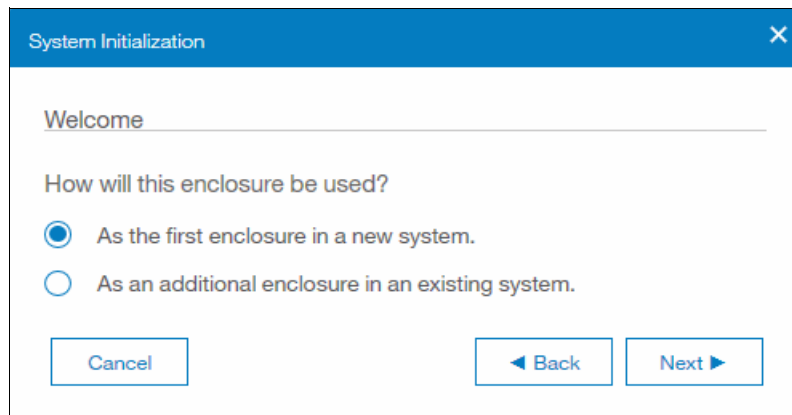

Figure 6-48 System initialization enclosure usage pane
8. The System Initialization Welcome pane is displayed (Figure 6-48).